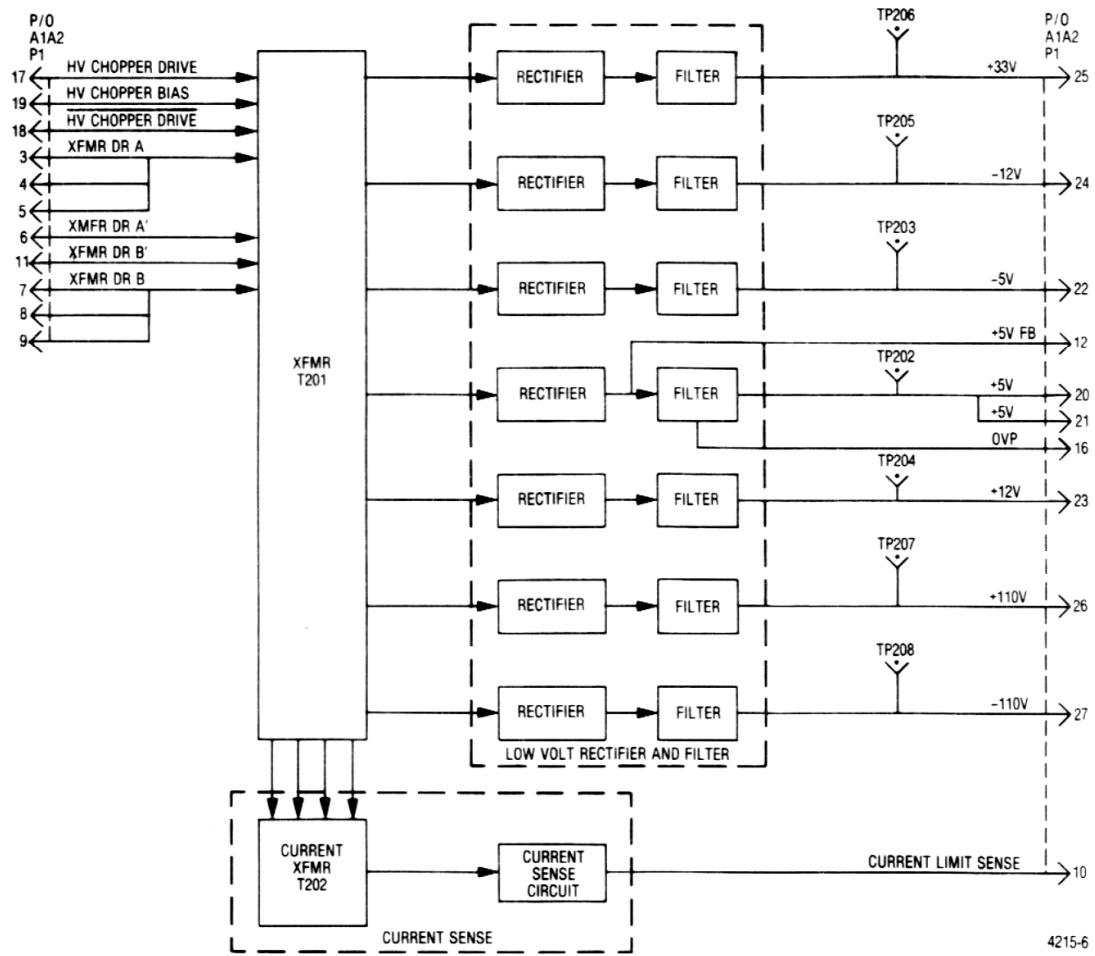

Figure 7-8. Low Voltage Power Supply Output Module A1A2 Block Diagram
17. **OUTPUT MODULE A1A2**. The output module (figure 7-8) provides the regulated output voltages and the current sense voltage for the overcurrent protection circuit. Input power is provided by signals XFMFR DR A, A1, B, and B1. These signals are 20 kHz squarewaves and drive the primary windings of transformer T201. After full wave rectification and filtering, the nominal output voltages are available as shown in figure 7-8.